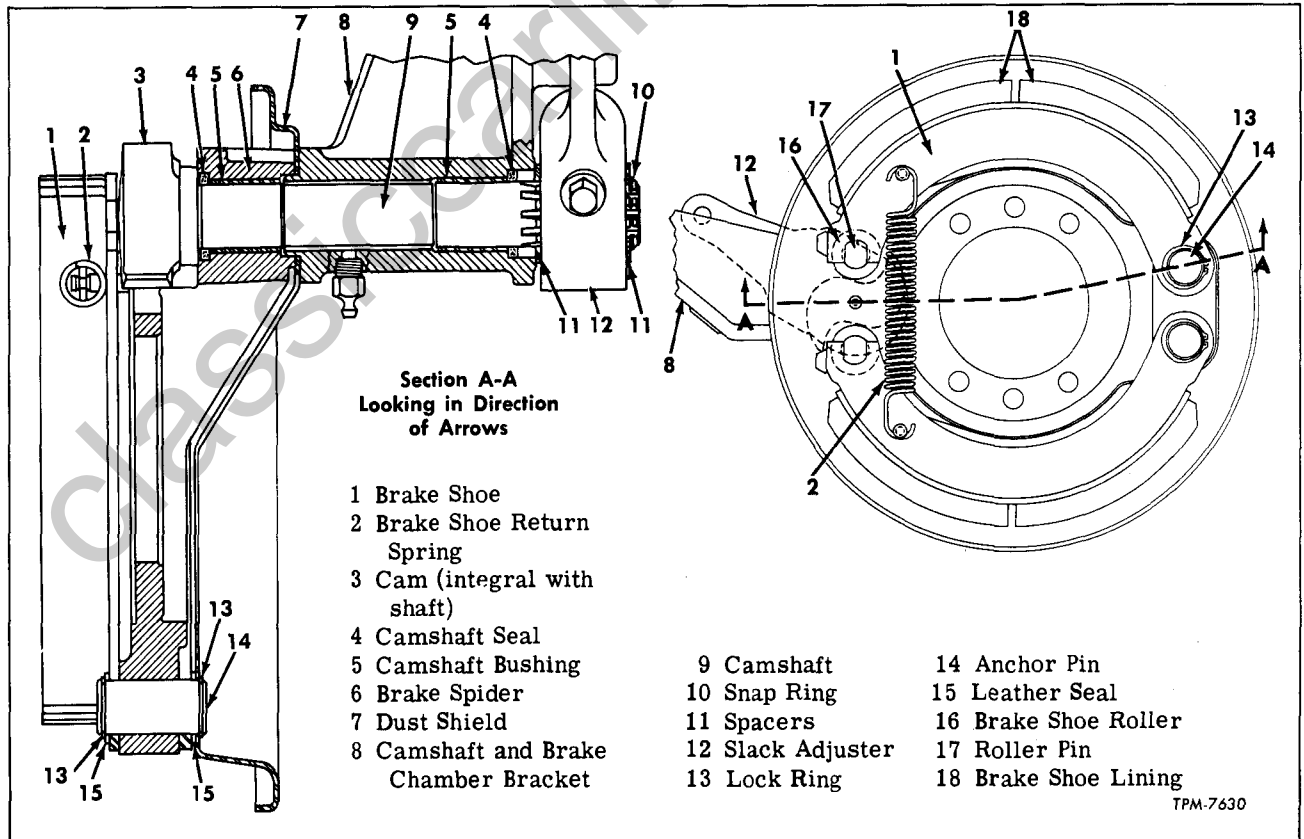

Figure 22—Rear Brake Assembly (Wagner)
Wagner "S" cam brake assemblies are used on rear axle of all steel tilt cab models. All conventional cab models and Alum. Tilt models use "Stopmaster" brakes at rear axle. Brake assembly can be removed as a complete assembly; however, the various components must be replaced individually. Brake assembly shown in figure 22 is a typical Wagner brake assembly.
(Refer to Fig. 22)
Slack adjuster, mounted on splined end of camshaft, is held in place by a lock ring. A spacer is used on each side of slack adjuster. On the brake assembly shown in figure 22, the two spacers (11) are the same; on some models equipped with offset slack adjusters, the inner spacer is thicker than the outer spacer. Whenever camshaft has been removed, coat bushing surfaces with S-17 Special Lubricant or equivalent before installing. After installation, apply lubricant as directed in LUBRICATION (SEC. 0) of this manual, and adjust brakes as directed under "Brake Adjustments."